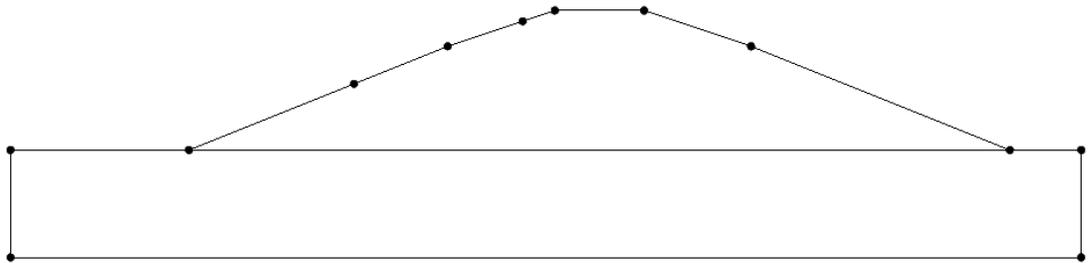

Figure 1 Arcs connecting points
3. Using Figure 1 below as a guide, click on the existing points to create arcs between the points around the perimeter of the model.